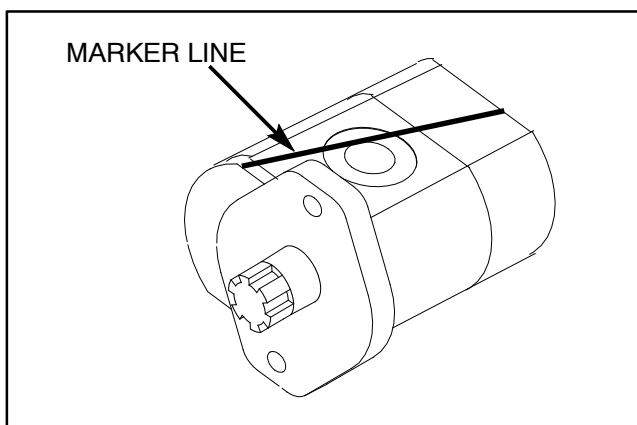

Figure 87
2. Use a marker to make a **diagonal** line across the front plate, body, and back plate for assembly purposes (Fig. 87).